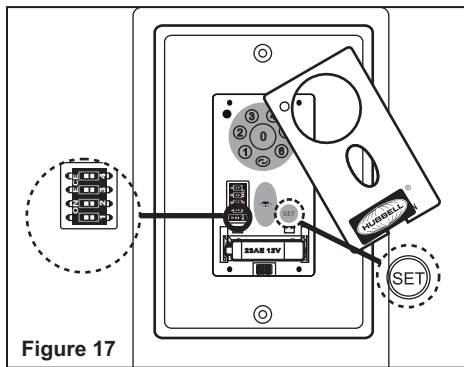

Figure 17
a) Select desired frequency from the transmitter. The dip switches can be set to 16 different combinations. (Fig. 17)
b) From the front of the transmitter, with the fan’s power off, restore power to the fan. Press and hold “SET” button for about 5 seconds and release. The signal light on the wall transmitter will come on when the button is pressed. The fan has completed the pairing process with the wall control and is ready for use. (Fig. 17)